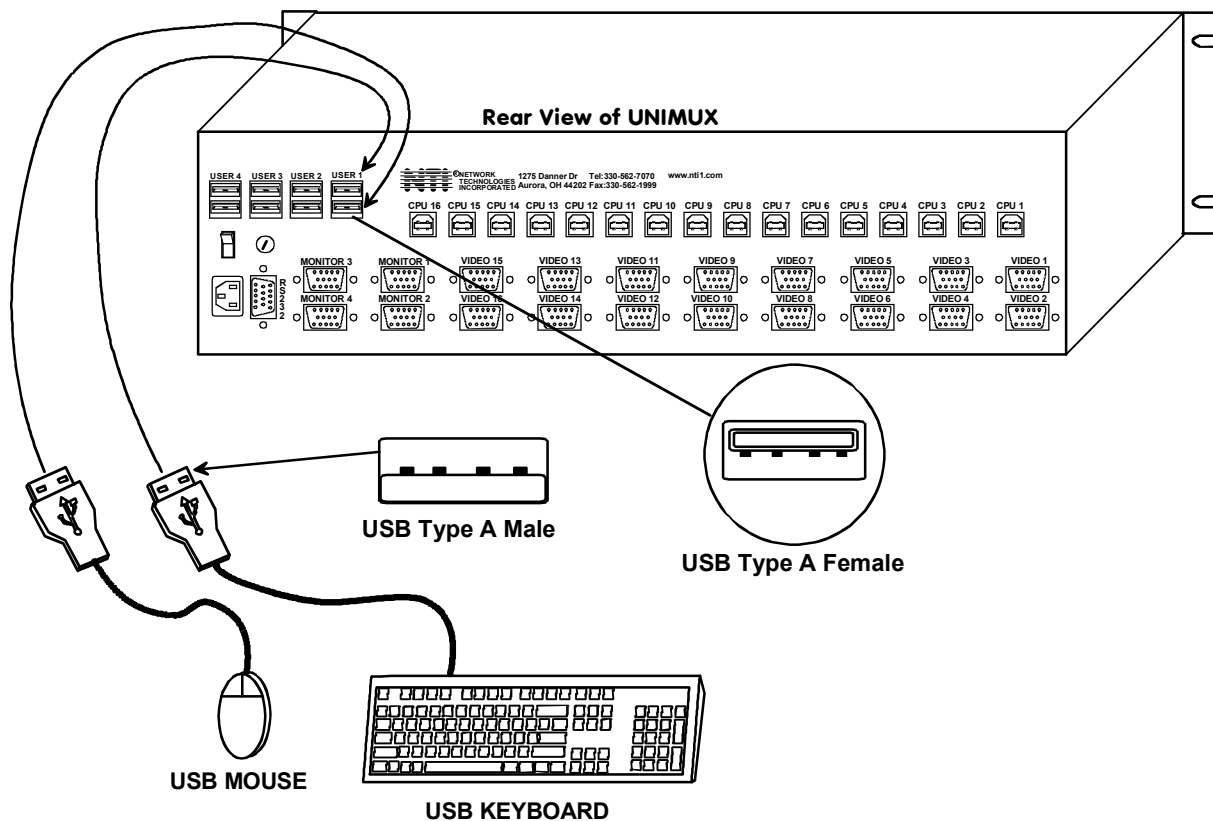
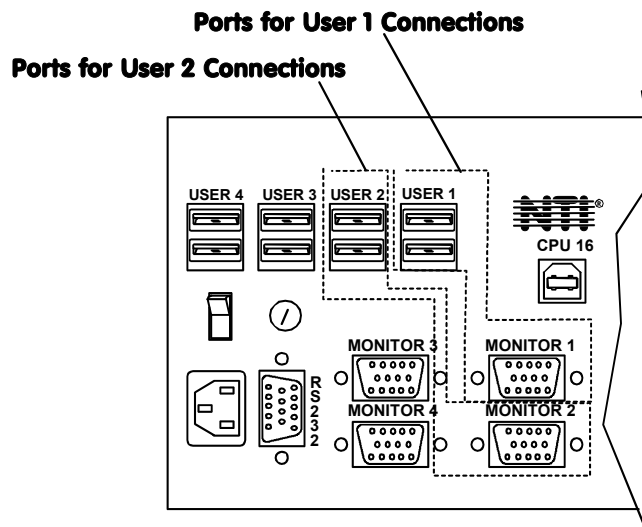

Figure 3- Install user devices (mouse and keyboard)
Figure 5- Group user ports by like number
- Connect the user devices to the USB type A female ports labeled USB USER DEVICES on the rear of the UNIMUX switch. (See Figure 3.) Ensure that the monitors and related user devices are connected to ports having the same port numbers. (See Figure 5.)